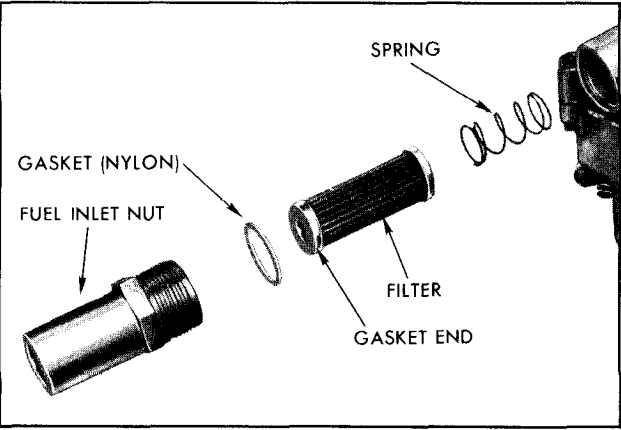

Figure 23-Fuel Filter
1. Remove fuel inlet nut, gasket and filter. See Figure 23.
3. Install fuel inlet filter spring, new gasket and inlet nut and tighten nut securely (18 ft. lbs.) as shown in Figure 23.